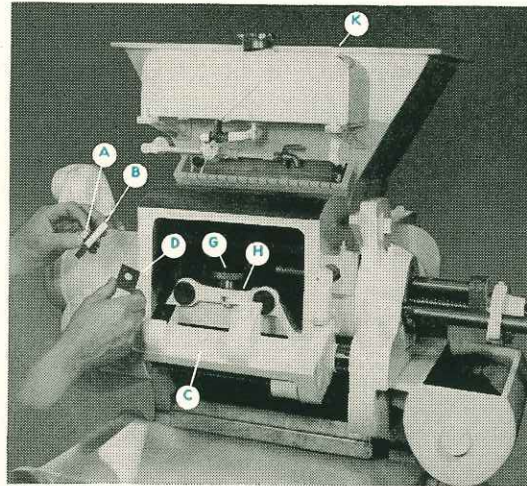

FIG. 1
- 2 Turn machine so cylinder or dividing head is in position shown in Fig. 1.
- 3 Remove bolt (A) and plate (B) Fig. 1, from rocking sleeve (C) and place sufficient shims (D) under plate (B) to correct weight in the pocket, the number of shims necessary depends largely on the character of the dough and cannot be accurately foretold; however, if the plate (B) is shimmed up $\frac{1}{8}$ " it will cause the pocket to scale approximately one ounce heavier. When more than one pocket needs correcting, it is advisable to adjust one at a time, replacing each plate (B) before removing the next.
- 4 After placing shims in position, replace plate (B) and bolt it down firmly. Make certain that all plates (B) are replaced before starting machine.
- 2 Turn handwheel (E) so that index pointer (F) is as far to the right as possible.
- 3 Remove knurled hand nut (G) and bearing yoke (H) Fig. 1.